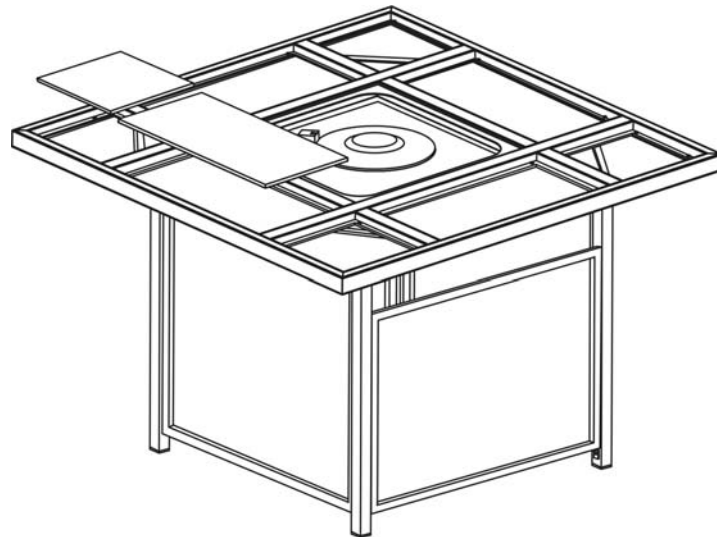

Figure 11
11. Note the clear bumpers spaced evenly throughout the inside of the table top. Carefully place tiles inside table rim, resting on the clear bumpers as shown in Figure 11